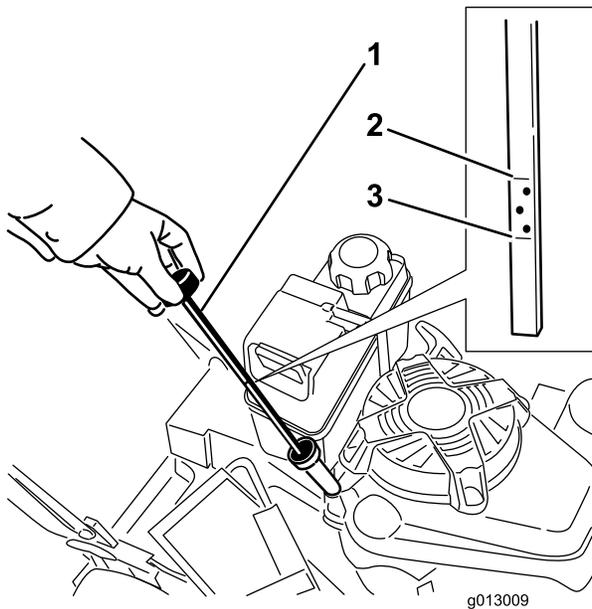

Figure 10
Before each use, ensure that the oil level is between the Add and Full marks on the dipstick (Figure 10).
2. Clean around the dipstick (Figure 10).
6. Read the oil level on the dipstick (Figure 10).